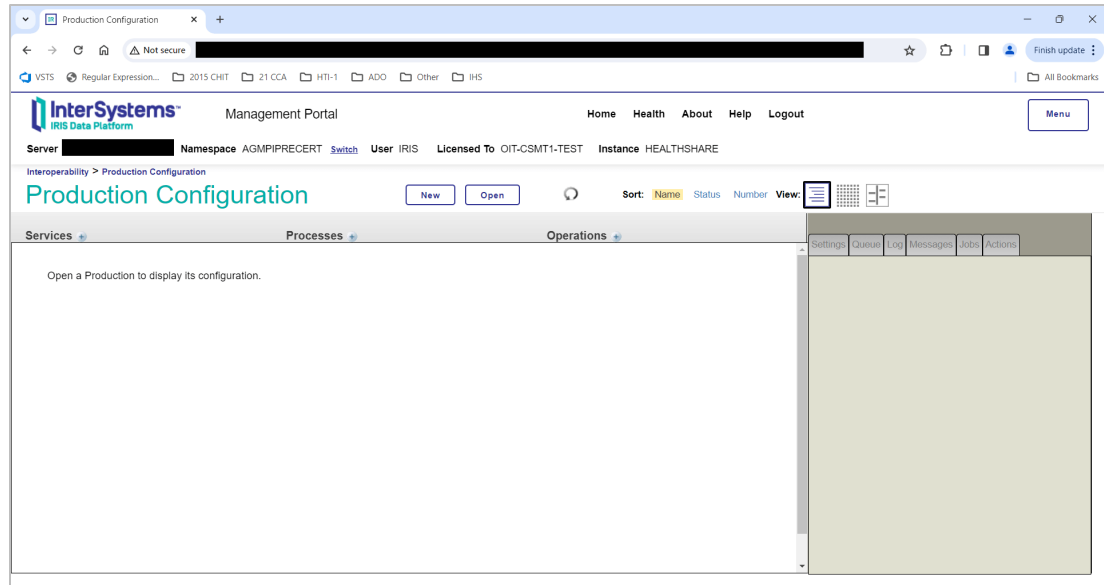

Figure 5-7: **Production Configuration** page with no production open
6. If this is the first time the production is opened in the current namespace, no production displays, as shown in Figure 5-7.